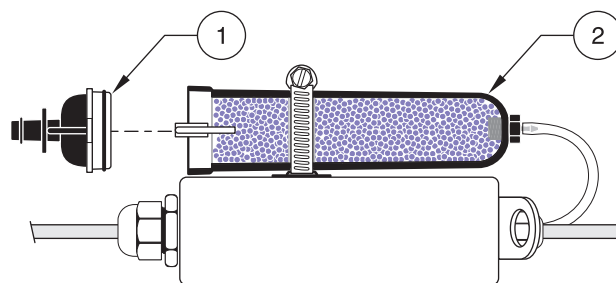

Figure 38 Removing the Bottom End Cap
1. Twist the bottom end-cap using a slight twisting motion until its slots align with the retaining clips (Figure 38).